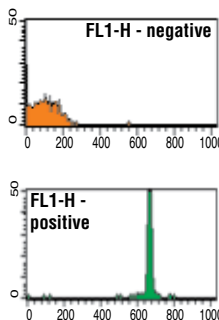

Figure 5
- Using the FL1 and/or FL2 channels (depending on the reporter antibodies used), determine whether or not any bead populations tested “positive” for the analyte. (Figure 5) *Note:* A positive bead will produce a fluorescent peak in the FL1 or FL2 channel. The minimum fluorescence intensity needed to be considered “positive” is based on the Relative Channel Value (RCV) of the peak. It is up to the investigator to determine what threshold RCV value will constitute a “positive” result.